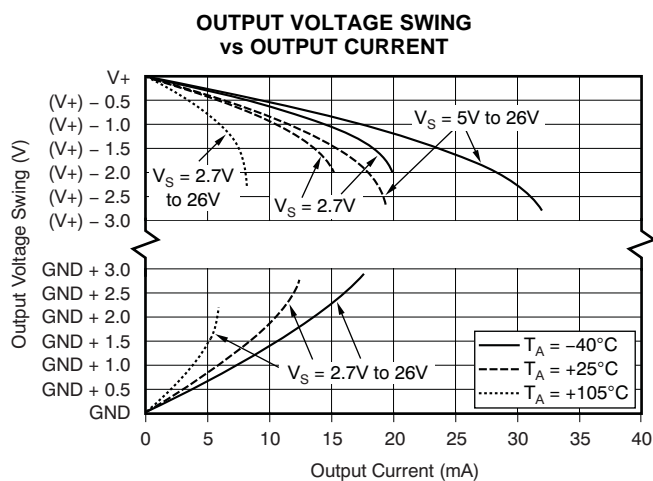

Figure 6.
(1) RTI = Referred-to-input.
(2) See Typical Characteristic curve, *Output Voltage Swing vs Output Current* (Figure 6).